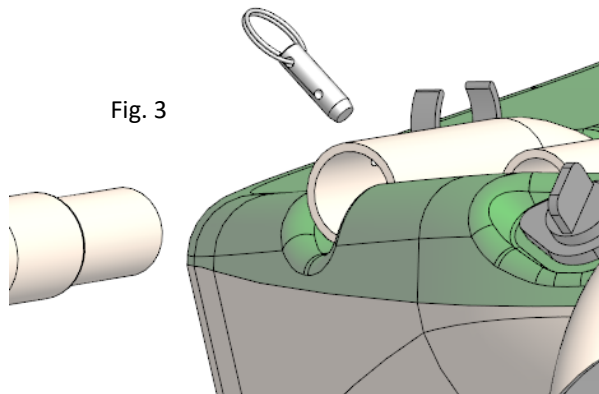

Fig. 3
- 2) With the two quick release pins pulled out of the frames of the **BACK FLOAT** (fig. 3), assemble the **MIDFRAME** to the **BACK FLOAT** by inserting the reduced ends of the widest end of the **MIDFRAME** into the frames of the **BACK FLOAT** and secure it with the two quick release pins attached to the **BACK FLOAT**.